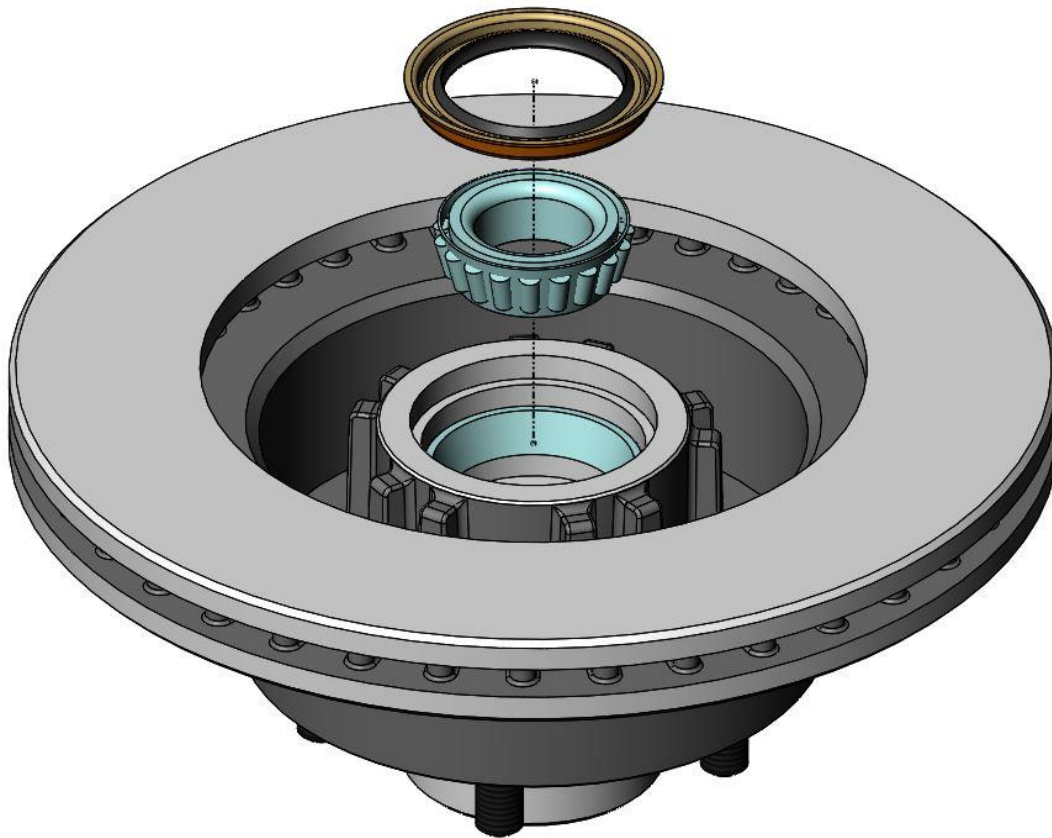

Figure 1 – Inner Wheel Bearing and Grease Seal Installation
13. The installation of the inner wheel bearings and grease seals is next. The wheel bearings must be packed with a high-quality wheel bearing grease available at your local parts store. Once the bearings are packed, the inner wheel bearings can be installed in the rotors. Once the inner bearings are installed, tap the inner grease seals in at this point. Figure 1 below shows them being installed.